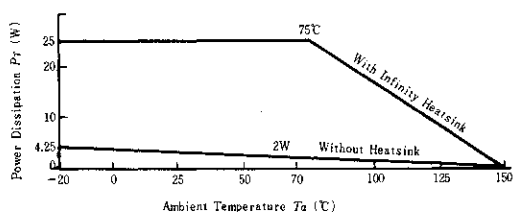

Fig. 1
2. See the derating curve of Fig. 1